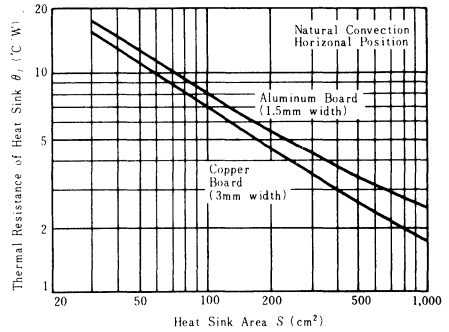

Fig.4 Areas vs Thermal Resistance of Heat Sink
attached so that the junction temperature is below the specified value. If you use the radiators on the market, you must select one with required thermal resistance and pay attention to mounting. If you design by yourself, you can utilize the data in Figs. 4 thru 6.
- (3) As Fig. 4 indicates, the required area of the heat sink will be 760cm^2 when copperplate of thickness; 3 mm. Then, the heat sink is placed horizontally. If this area is too large, it can be smaller by air-cooling by wind from a fan.